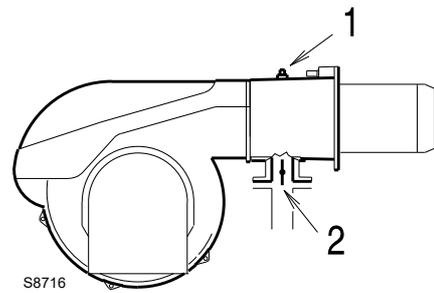

Fig. 27
Gas pressure measured at the test point 1)(Fig. 27), with:
Pressure loss at gas butterfly valve 2)(Fig. 27) with maximum opening: 90°.
- Subtract the combustion chamber pressure from the gas pressure measured at test point 1)(Fig. 27).
\text{Gas pressure at test point 1)(Fig. 27)} &= 16.0 \text{ mbar} \\
To know the required gas pressure at test point 1)(Fig. 27), set the maximum output required from the burner operation, then:
- Read, on the right (column 1) the socket pressure 1)(Fig. 27).
pressure required at test point 1)(Fig. 27).